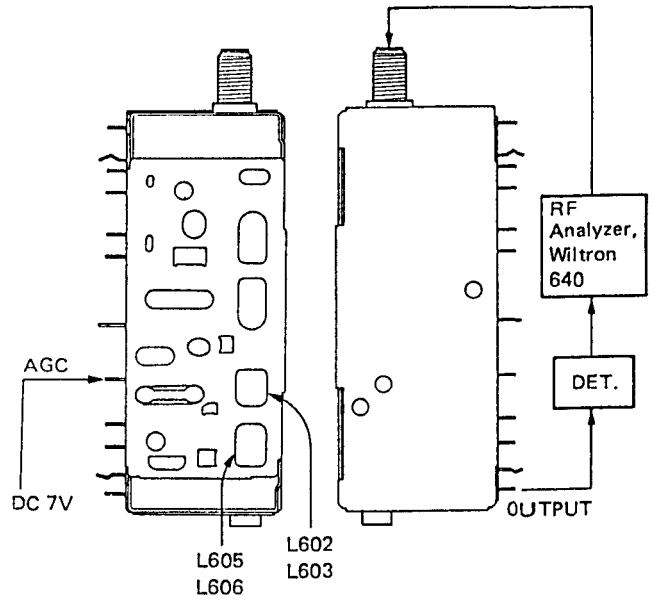

Fig. 8
1. Tune the unit to CH.2, and input an RF signal from the Wiltron to the INPUT terminal. Remove the jumper wire from the AGC terminal at this time, and apply 7V DC to the AGC terminal from the DC power supply. (Fig. 8)